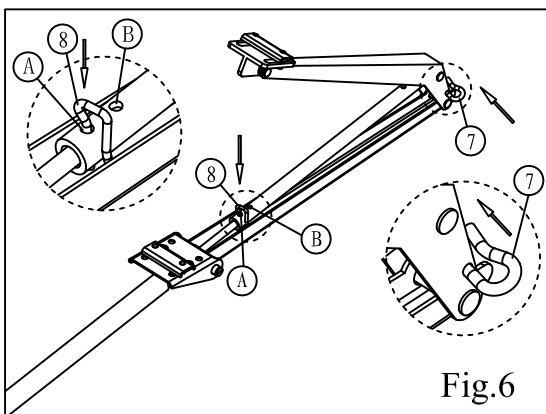

Fig.6
Follow the same procedure as above description, the difference is not to use hole , but to use hole <A>. Then insert the stop pin (7) into the hole of arm B (5). See fig.6.